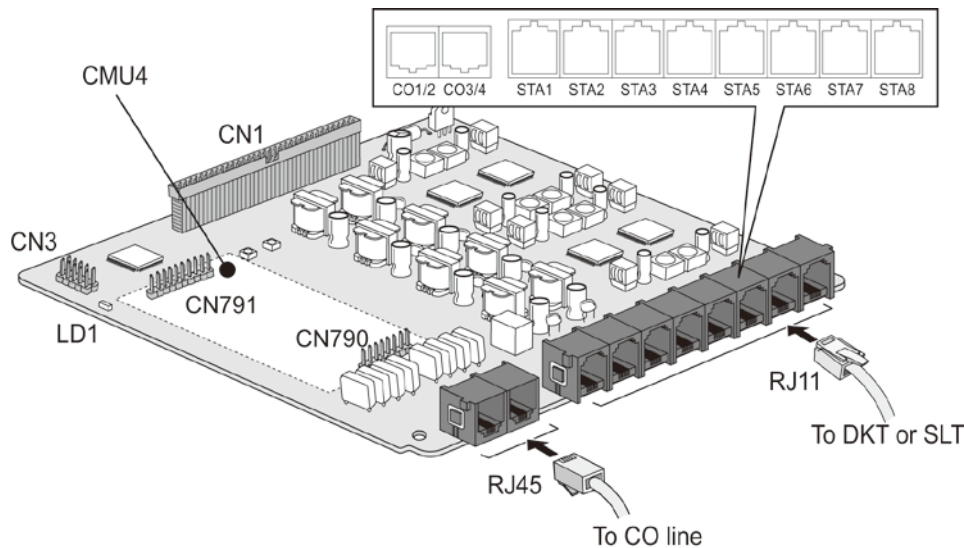

Figure 4.7.2-1 CH408
The CH408 board has four (4) CO line and eight (8) Hybrid (DKT & SLT) interface ports. The board can be installed on the CN1 connector of the KSU or EKSU. Also, the MG-CMU4 daughter board for call metering can be installed on connectors CN790 and CN791 as shown in Figure 4.7.2-1 below.